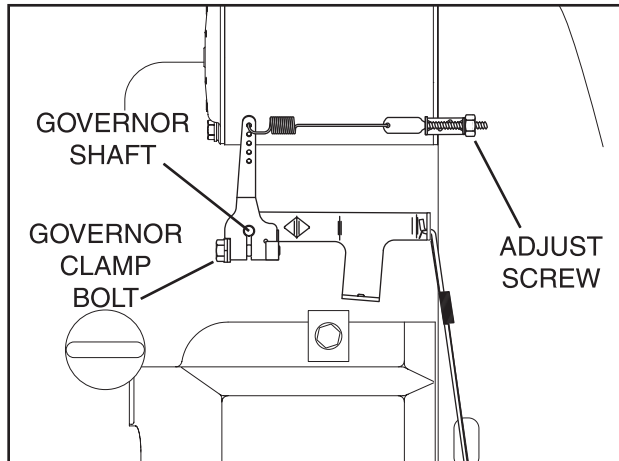

Figure 9. Engine Governor Adjustment Single Cylinder Engines
1. Loosen the governor clamp bolt (Figure 9).